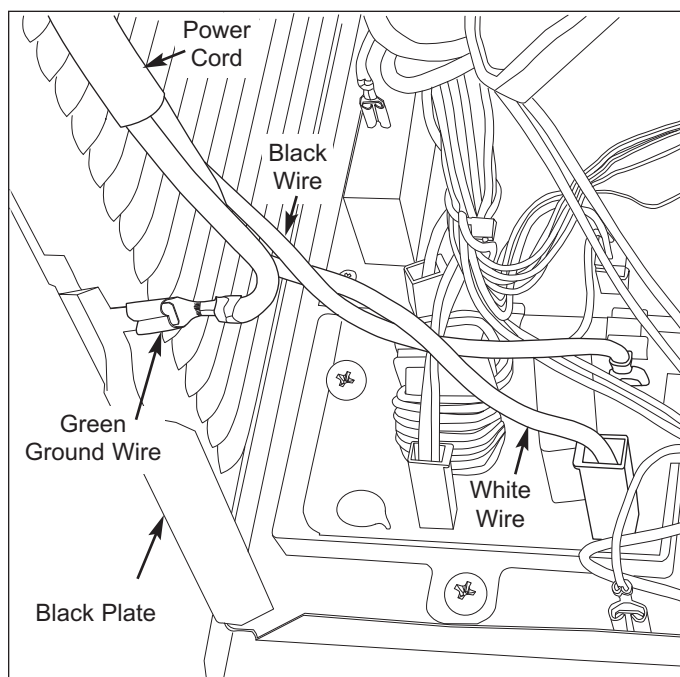

Figure 4-7. Power Cord Replacement
1. Un-hook the black and white AC terminals from the noise filter PWB and green ground wire from the back plate (See Figure 4-7).
2. Attach the black and white AC terminals from the new power cord to the noise filter as shown in figure 4-7.